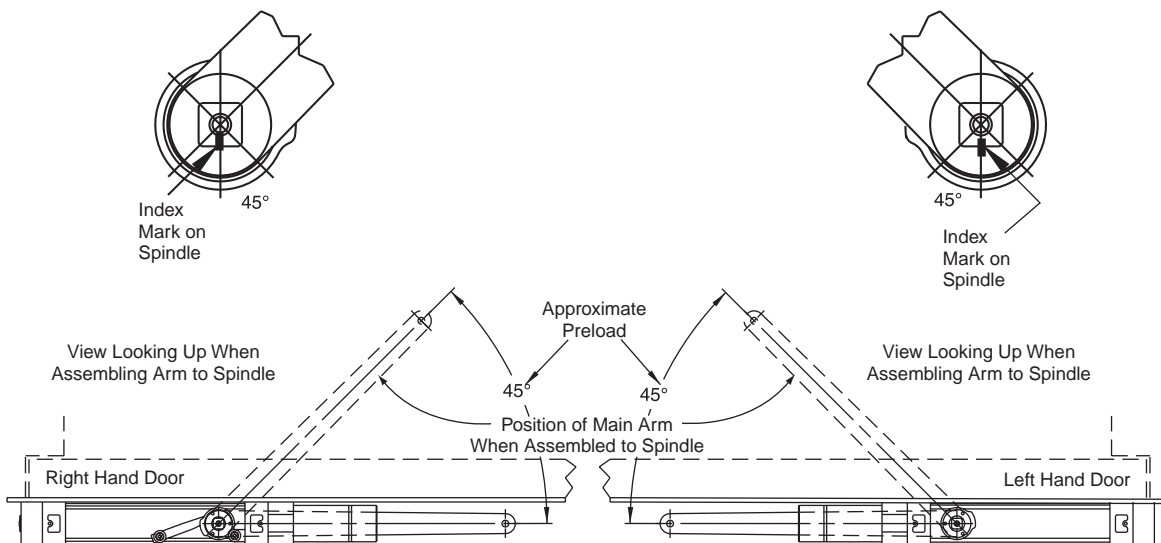

Figure 3
1. With appropriate size wrench, rotate closer top spindle approximately 45 degrees. (Figure 3)